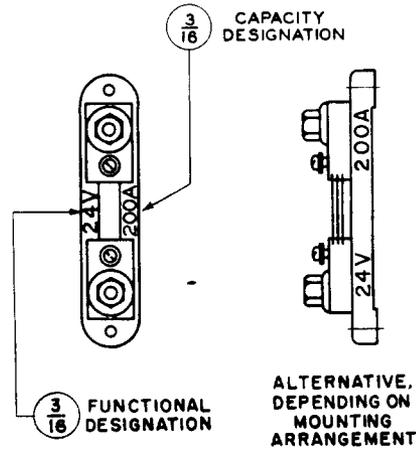
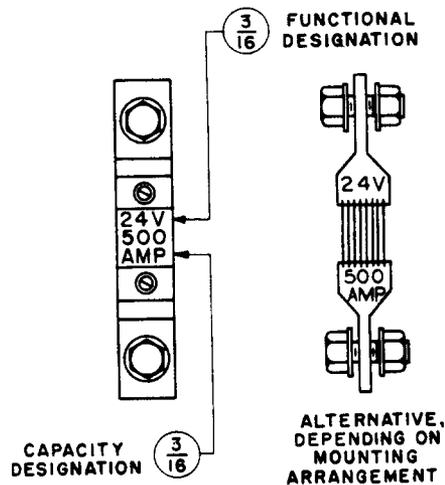

Fig. 1 - Ammeter Shunt Mounted on Block
Fig. 2 - Ammeter Shunt Mounted on Bus Bars
2.02 For a small ammeter shunt mounted on a block, put designation on face of block or shunt. (See Fig. 1.) If the shunt is of large size, place the designation on the shunt as shown in Fig. 2 in horizontal position when space permits.